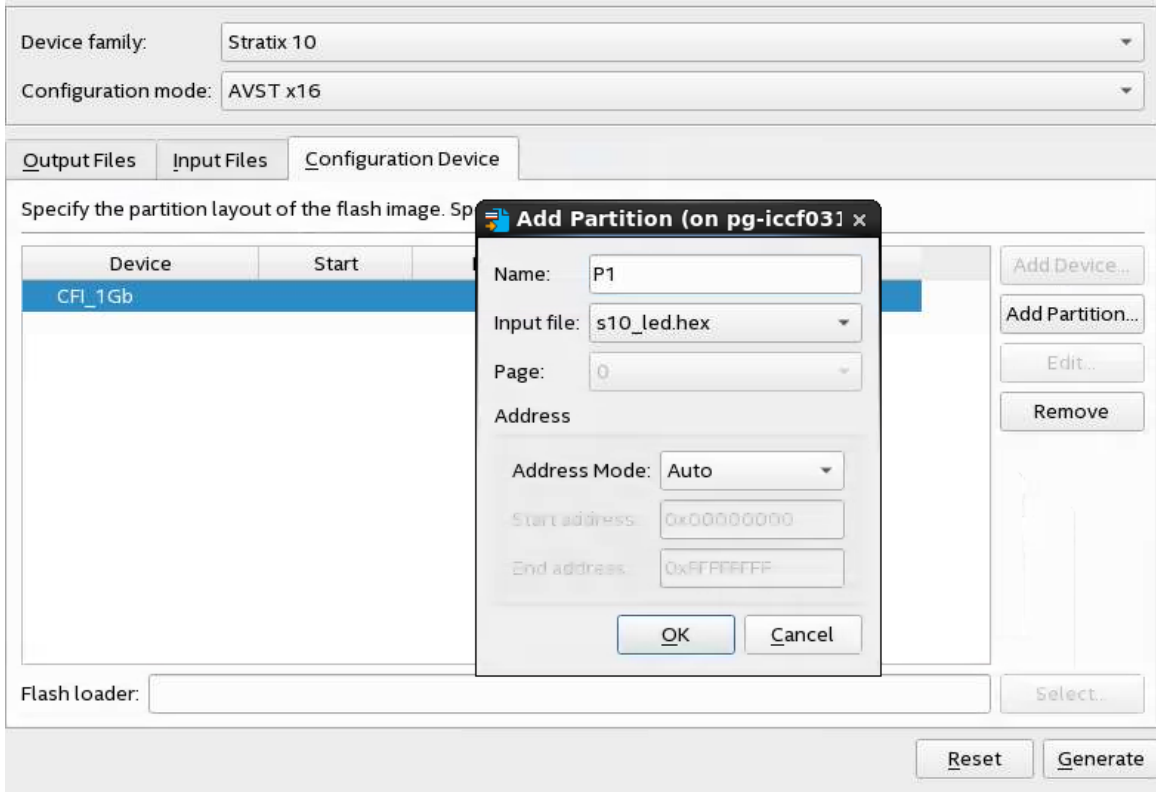

Figure 7: Create partition for flash device
6. Select the device that you added, click Add Partition. You may leave the partition name as default value. Select the Input file as the HEX file you are using. The complete setup is shown in Figure 7.